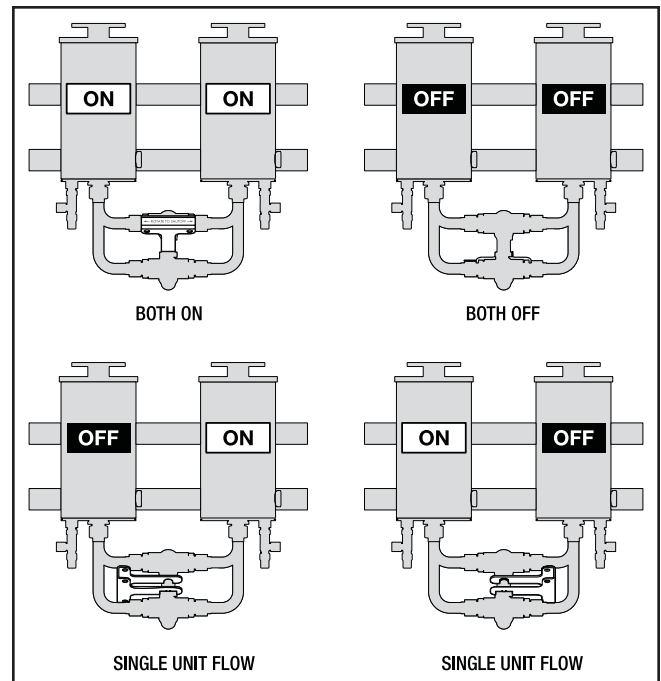

Figure 4 - Valve Operation
1. For single unit flow, rotate the valve handle either to left or right depending on which unit is to be used. (Rotate the handle either left or right) See Figure 4.
2. For duel unit flow, rotate the valve handle 180° from the shutoff position. (Rotate the handle to the front) See Figure 4.
3. To shut off flow, rotate the valve handle 180° from the duel flow position. (Rotate the handle to the back) See Figure 4.